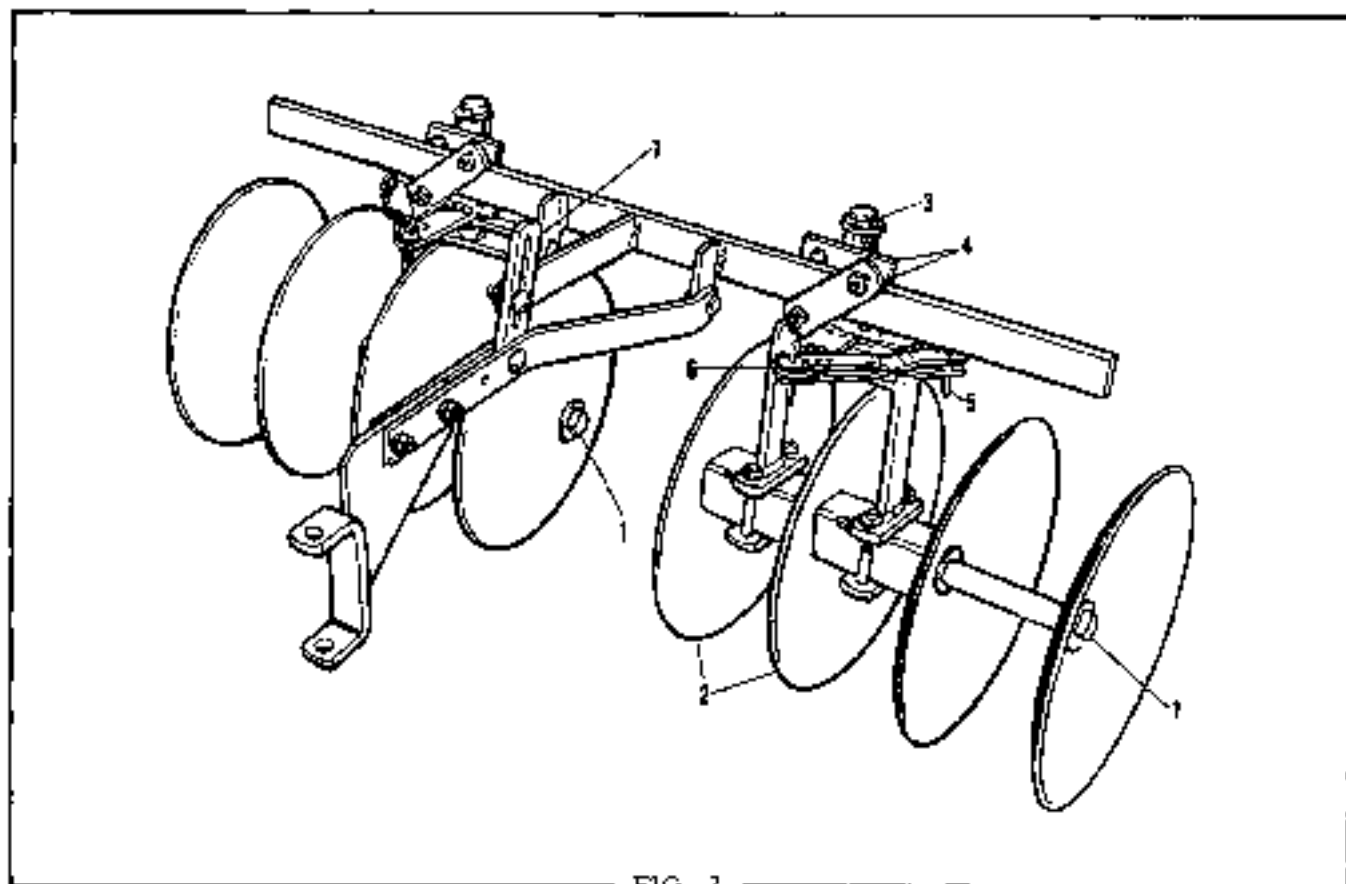

FIG. 2
**ASSEMBLY (Fig. 2)**
2. Clamp the disc gangs in place on the tool bar (3) using clamps (4), carriage bolts, hex nuts and lockwashers as shown in Fig. 2.
To attach the disc harrow to the tractor, it will first be necessary to attach the clevis assembly to the tractor tow assembly using the pivot pin and hair pin cotters. See Fig. 2. Mount the lift pin in place in the tube of the tractor lift and fasten with pin and hair pin cotter.